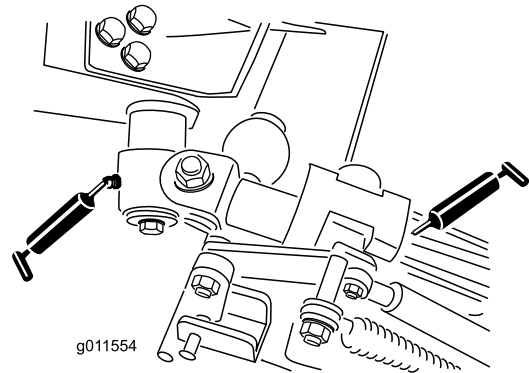

Figure 44
- 2 bell-crank-pivot bushings (Figure 44)
- 4 rear arm bushings (Figure 44)